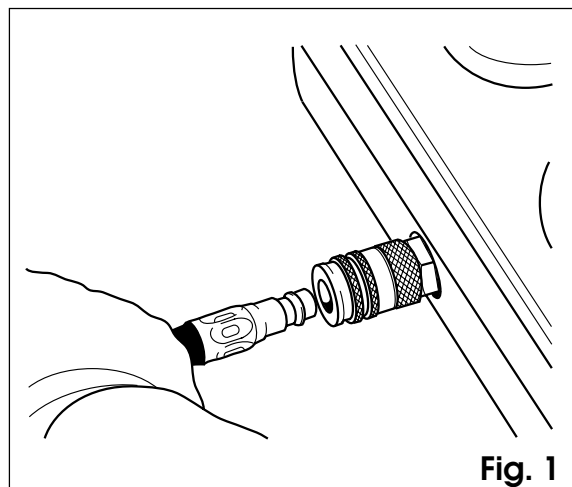

Fig. 1
- 1 Disconnect the lung demand valve from the female coupling of the medium pressure hose of the equipment pressure reducer and connect the separate lung demand valve to the female quick release connector located at the left side of the Testor. Refer to Fig. 1